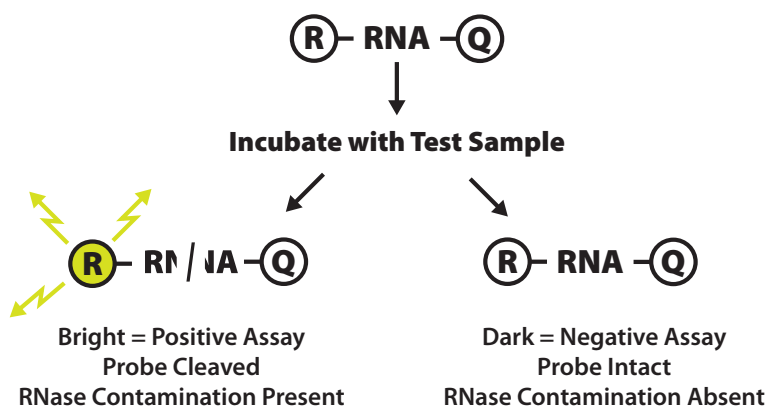

Figure 1. DNaseAlert Assay
The DNaseAlert Substrate is a synthetic DNA oligonucleotide that has a Hex™, reporter dye (hexachlorofluorescein, R) on one end and a dark quencher (Q) on the other end. Its sequence has been carefully optimized to react with a wide variety of nucleases; it contains domains that will react with single-stranded endonucleases, single-stranded exonucleases, and double-stranded nucleases. Intact, the substrate has little or no fluorescence. When cleaved by a DNase, the substrate fluoresces pink (536 nm or UV excitation, 556 nm emission) and can be detected visually or using a fluorometer (Figure 1).